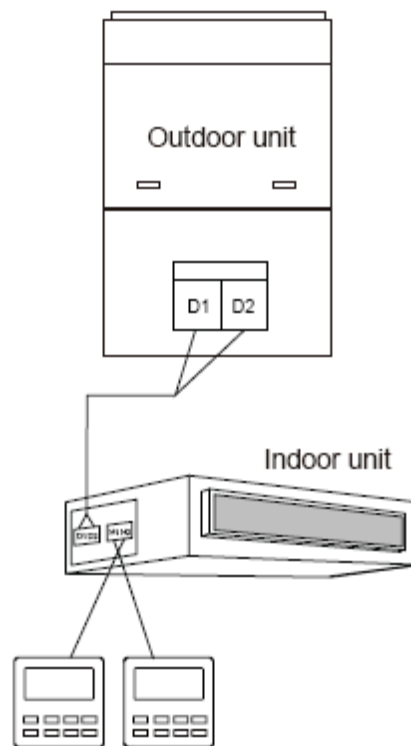

Fig.3.5 Two Wired Controllers Control One Indoor Unit
- (4) When one (or two) wired controller(s) control(s) multiple indoor units at the same time, the controlled indoor unit's setting should be the same.
- (5) Network wiring between wired controller and indoor unit must follow one of the four wiring methods as shown in Fig 3.4-3.7. As for the connection method shown in Fig 3.5 and 3.7, there should be only one master wired controller (address 01) and one slave wired controller (address 02). There can't be more than 2 wired controllers.